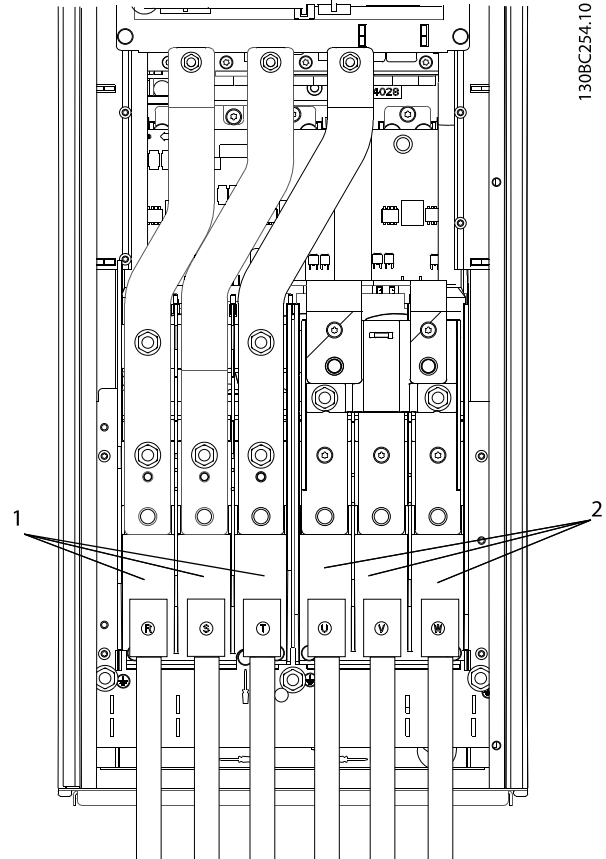

Figure 2.11 Connecting to AC Mains
- Connect 3-phase AC input power wiring to terminals L1, L2, and L3 (see *Figure 2.11*).